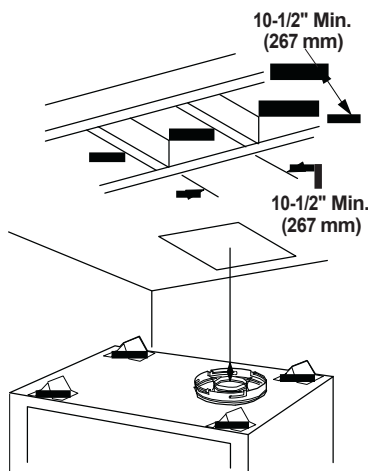

Figure 20
A. Frame ceiling opening - Use a plumb line from the ceiling above the appliance to locate center of the vertical run. Cut and/or frame an opening, 10-1/2" x 10-1/2" (267mm x 267mm) inside dimensions, about this center mark (**Figure 20**).